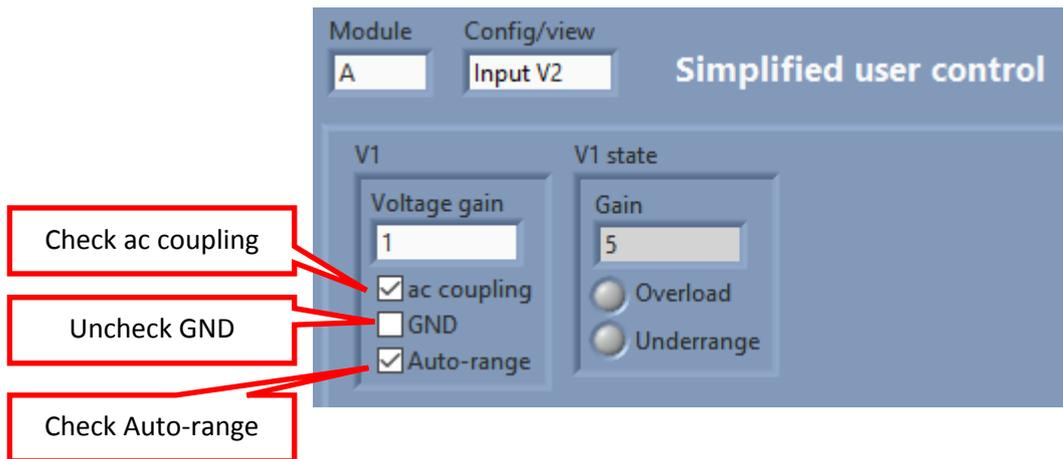

Figure 10, MCL Software Input V2 Control Display
- 9) Use the **Config/View** control to select the **Input V2** display (figure 10), and check the **AC Coupling** control, uncheck the **GND** controls, and check the **Auto-range** control.